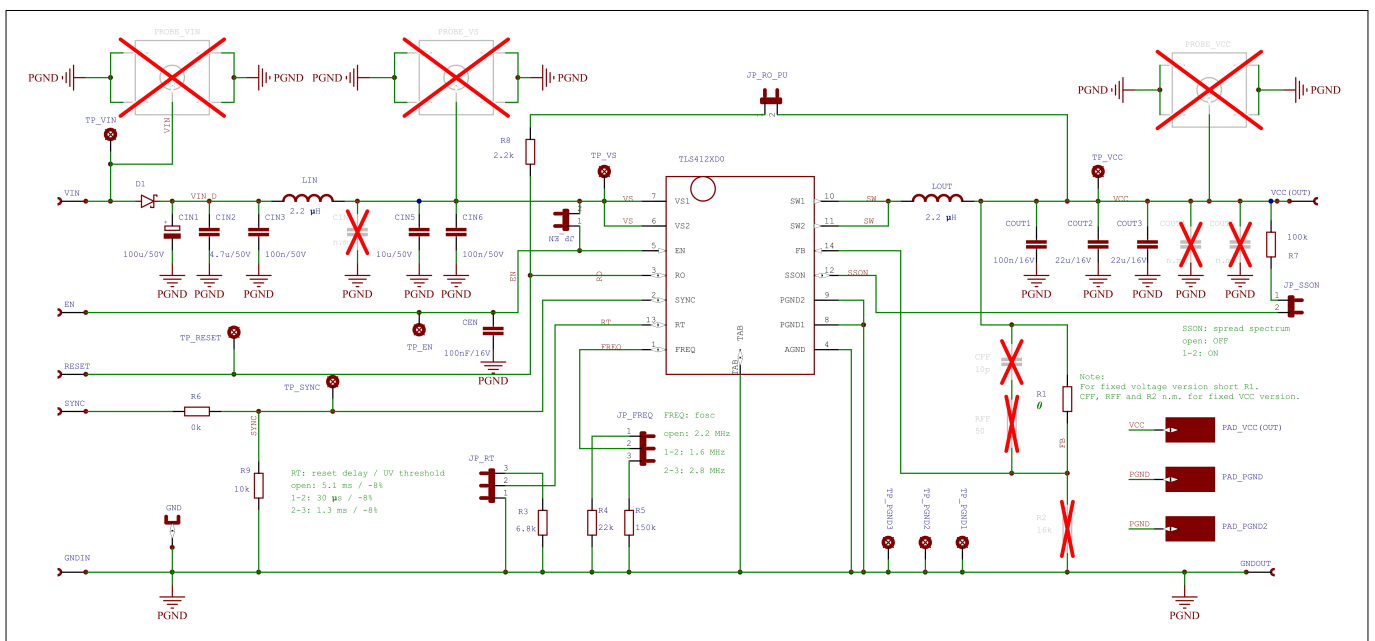

Figure 13 Schematic for fixed output voltage variants in HF configuration
- fixed output voltage variants TLS412xD0EPVxx in HF configuration, see **Figure 13**